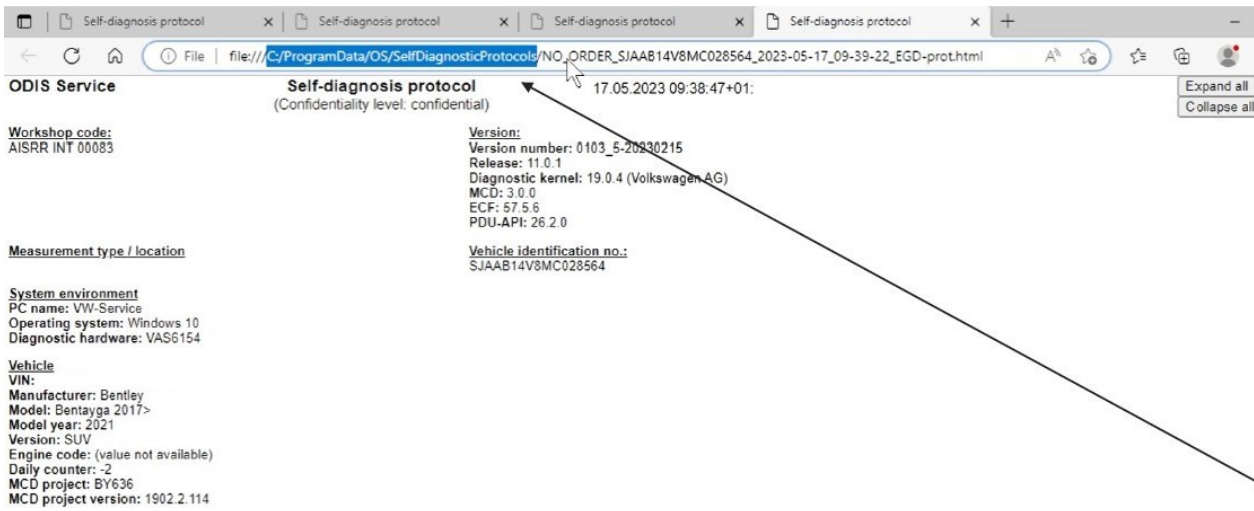

Figure 8
8) The location of the files will be displayed in the now open HTML file (Figure 8)